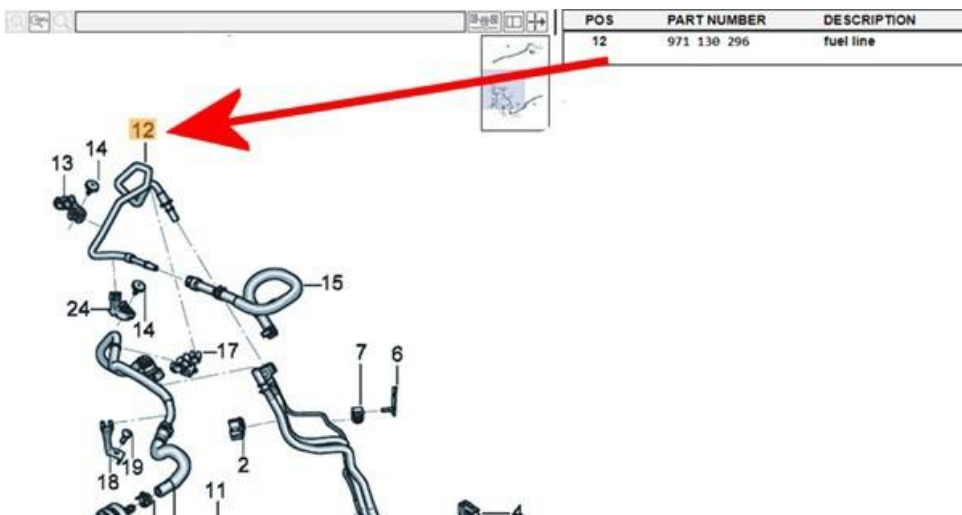

Figure 2
3) Referring to Figure 2 (Item 12) remove the fuel line shown
- In the event the fuel line is blocked/restricted - Replace the fuel line as shown in Figure 2 (item 12) ensuring all Rep.Gr guidelines are strictly adhered to